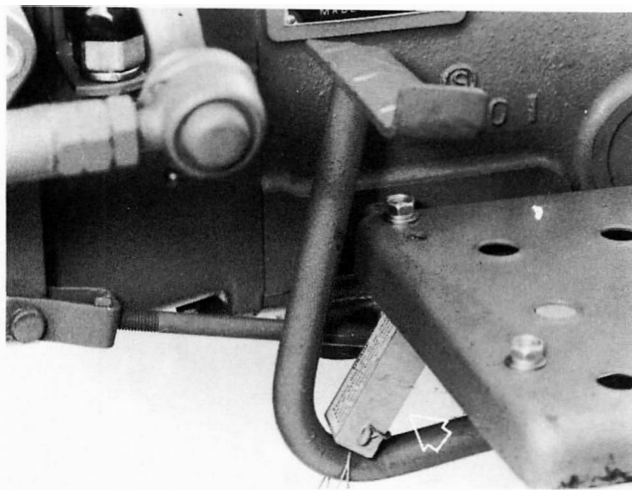

Figure 70 — Installing Pedal Spacer
10. Place pedal spacer between clutch pedal and step plate to separate clutch disc from flywheel (Figure 70.)